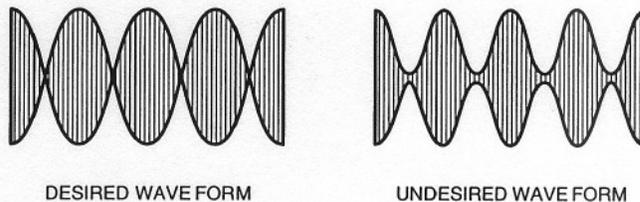

Figure 4. AME Waveforms
Step 3. Adjust the AME potentiometer, R16 on the A board, for zero crossover distortion of the RF envelope as observed on an oscilloscope (see Figure 4).